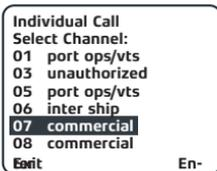

Figure 23
4. Select the required channel (fig 23).